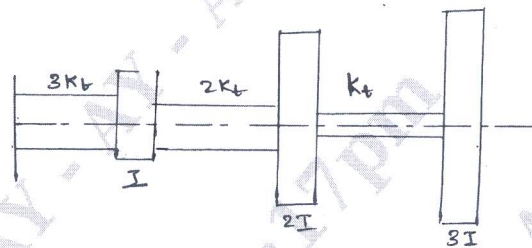

Fig. Q9
- 9 Using Stodala's method, determine the lowest natural frequency of the torsional system shown in Fig. Q9 (16 Marks)